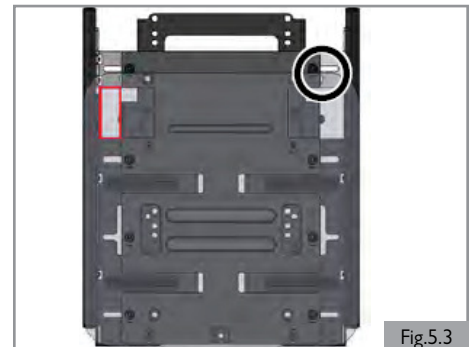

Fig.5.3
3. Mount extra seat depth mounting plate for seat depth 19-in - 22-in for more stability of the long seat rail (check with Sunrise Medical Customer Service for COG mounting location). (Fig. 5.3)